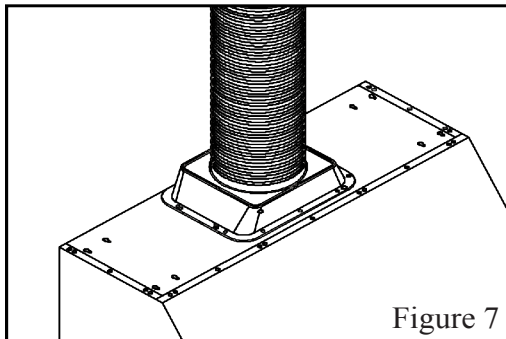

Figure 7
- i. Use 8" round steel pipe (follow building codes in your area) to connect the exhaust on the hood to the ductwork above. Use silver tape or duct tape to make all joints secure and air tight. Refer to Figure 7.